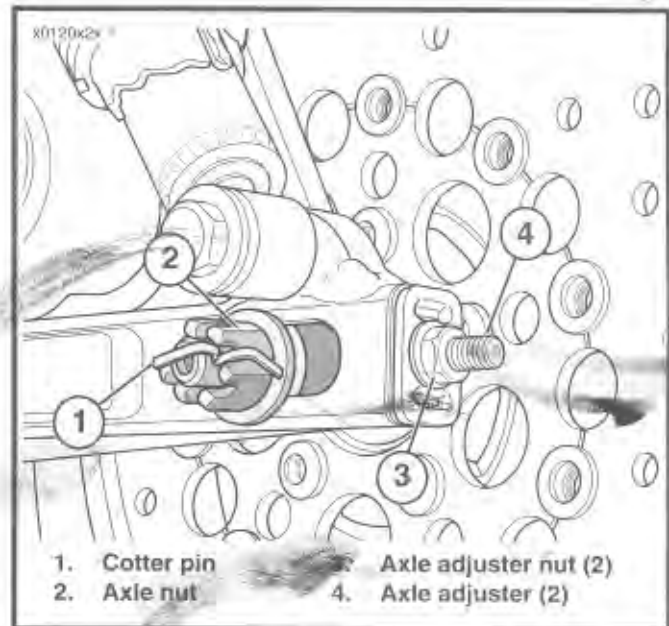

Figure 6-20. Secondary Drive Belt Adjustment
5. Remove transmission sprocket nut (3) from main drive gear shaft (1).
6. See Figure 6-20. Remove cotter pin (1) and loosen rear axle nut (2). Reduce tension on secondary drive belt by turning axle adjuster nuts (3), on each side of rear fork, an equal number of turns counterclockwise.